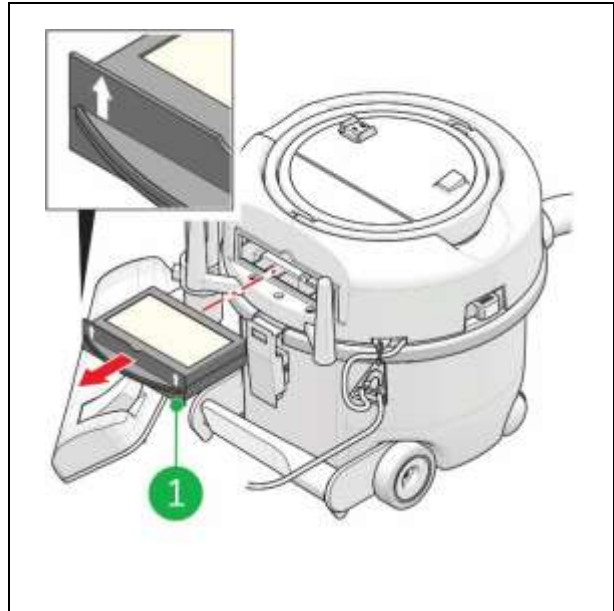

Figure 22
1. Pull out the cassette filter (fig 22, pos 1) from the head of the Dry Plus.